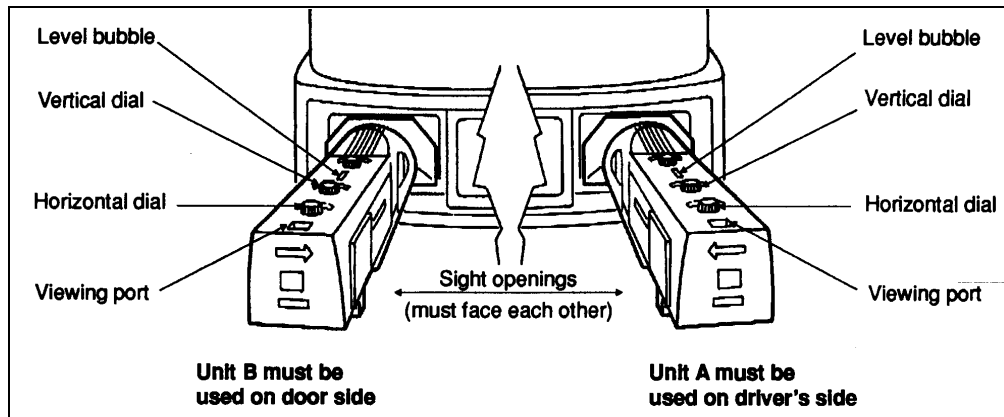

FIGURE 44: HEADLIGHT ALIGNER
2. Install aligners on headlights (unit A on driver's side and unit B on other side with the sight openings facing each other) by pushing the handle forward to secure rubber suction disc. Pull handle until it locks. Refer to figure 44.